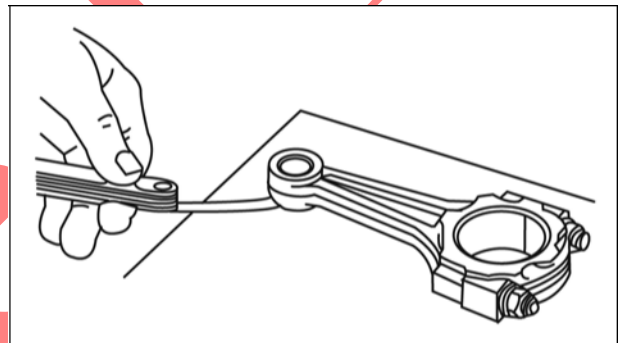

Figure 9
4. Check for bent or twisted connecting rod (Figure 9).